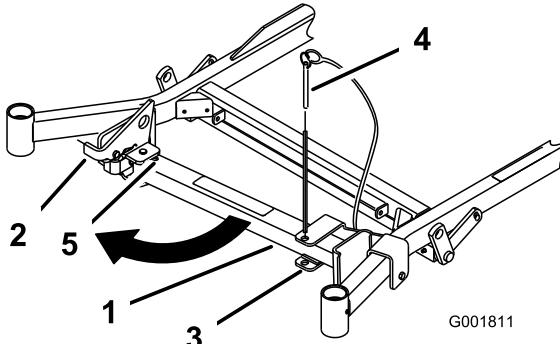
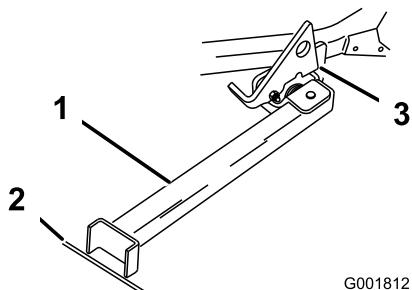

Figure 26
Figure 27
2. Remove the bracket pin (Figure 26).
3. Raise the latch. Swing the stand foot out front and slide stand toward machine, into the bottom of slot (Figure 26 and Figure 27).
4. Set the foot of stand on the ground and rest the latch on the pivot tab (Figure 27).
**Note:** For best results, place the foot of stand into seams in sidewalks or into the turf (Figure 27).
6. Drive onto the stand. Stop when the latch drops over the tab into the locked position (Figure 27). Once onto the stand, engage the parking brake and turn off the engine.
5. Return the stand to its rest position (Figure 26).